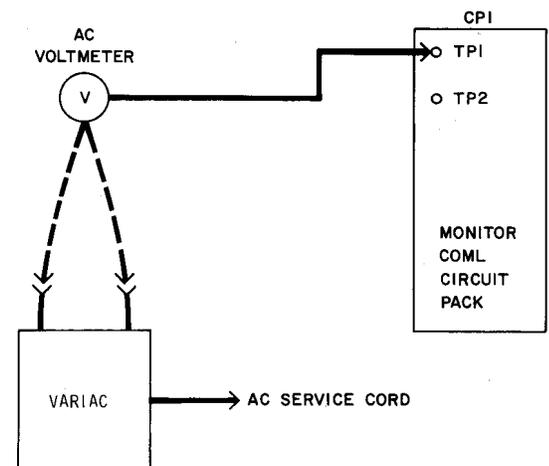

Fig. 2—Polarizing Variac to Commercial Supply
- (7) Remove the COML F3 fuse to disconnect commercial power from the MONITOR COML (CP1) circuit pack.
- (8) Disconnect the AC voltmeter from TP1 and TP2 test jacks of the MONITOR INVR.
- (9) Polarize the W5MT3 Variac output to match the commercial line voltage as follows (refer to Fig. 2):